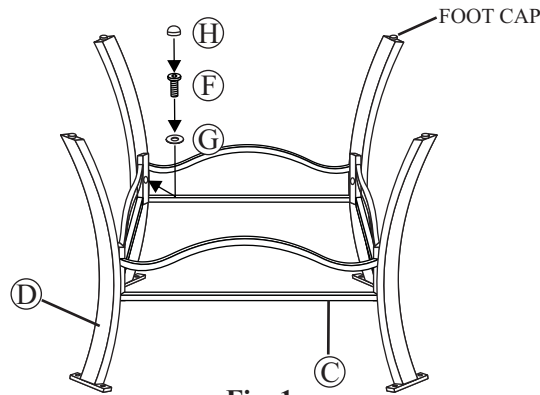

Fig. 1
Step 2: Attach a table leg to the leg connector bracket by using 1/4"x35 mm bolt and washer as shown in Fig.1. Guide the bolt through the hole in the leg connector bracket into the pre-drilled hole in the table leg. **Hand tighten only 2-3 revolutions.** Repeat on the other three legs.